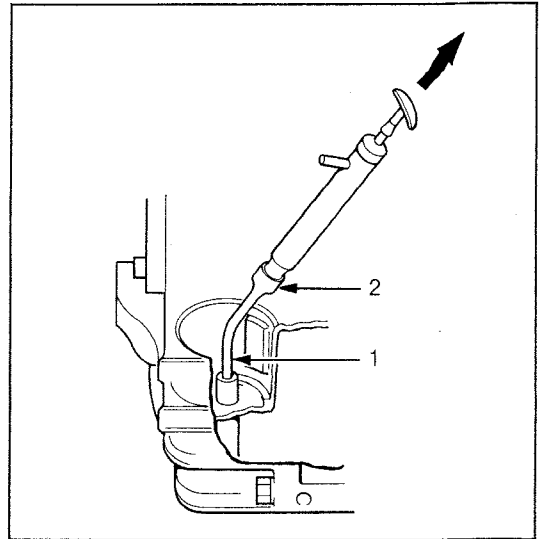

Figure 5
3. Pump out old transmission fluid through suction pipe (Figure 5, Item 1) in the filter compartment.
Max. outside diameter of suction hose is 16 mm (5/8 in) (Figure 5, Item 2).